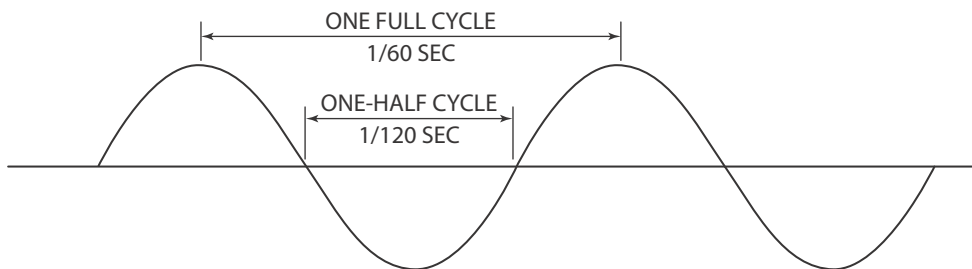

FIGURE 15-21 Sine wave of alternating current at 60 cycle. © Cengage Learning 2012
Alternating current (AC) concentrates about half of its heat on the work and the other half on the tungsten. Alternating current is continuously switching back and forth between DCEN and DCEP. This switching takes place once every 1/120 of a second. The complete cycle takes 1/60 of a second, so it makes 60 complete cycles per second, Figure 15-21. Alternating current would look like waves on water if you could stretch it out with the peaks of the waves coming along every 1/60 of a second. The speed at which current changes back and forth is referred to by three different names that all mean the same thing—cycles, frequency, or hertz.